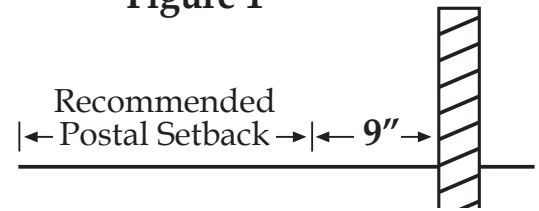

Figure 2
- 3) Place the 4" x 4" post into the hole so that the face of the post is at the marked line (See step 2) leaving at least 18" out of the ground. (See Figure 2)
- 5) Carefully remove the aluminum post (B) from the plastic sleeve. To prevent a reaction between the treated wood and aluminum, first slide the plastic sleeve over the partially buried 4x4 and then slide the post down so that the two bolt holes are positioned away from the road and the aluminum post is resting on the ground. (See Figure 2)
- 6) Plumb the aluminum post to vertical and use 2 - 1/4" x 2" lag bolts provided (C) to secure aluminum post to treated post. (See Figure 2 - drilling pilot holes in the wood may be necessary)
- 6) Plumb the aluminum post to vertical and use 2 - 1/4" x 2" lag bolts provided (C) to secure aluminum post to treated post. (See Figure 2 - drilling pilot holes in the wood may be necessary) **Please Note:** Apply small amount of Silicon Sealer (G) in and around holes before securing the two bolts to the post.